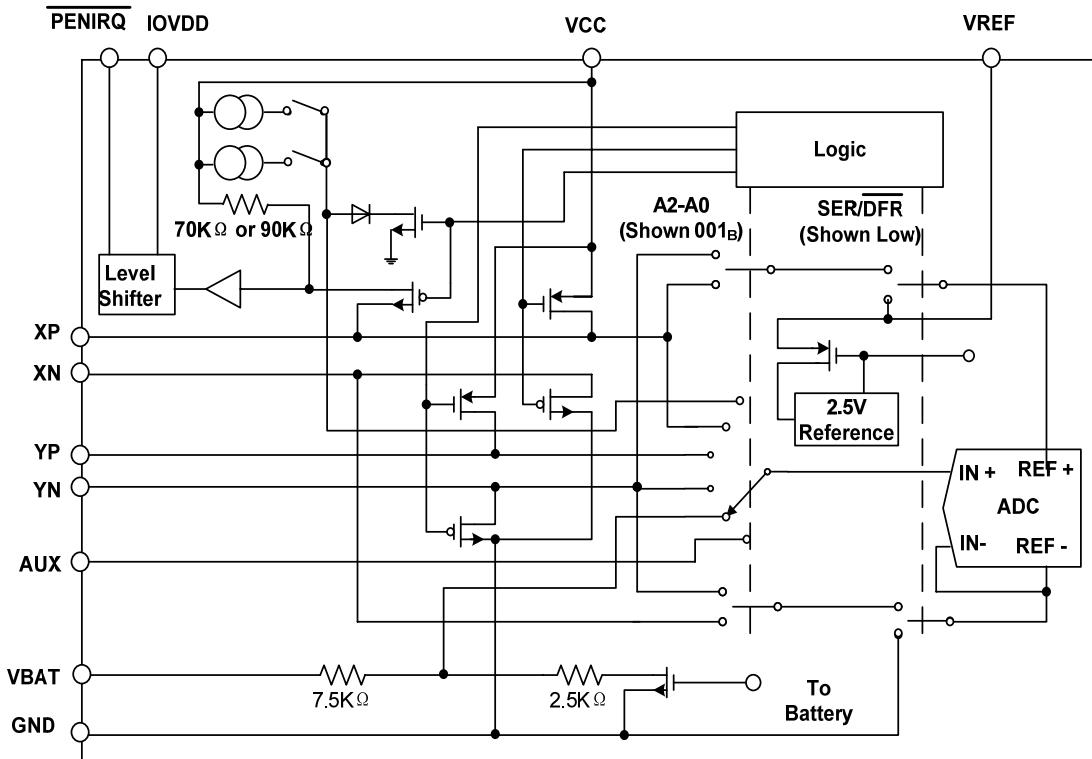
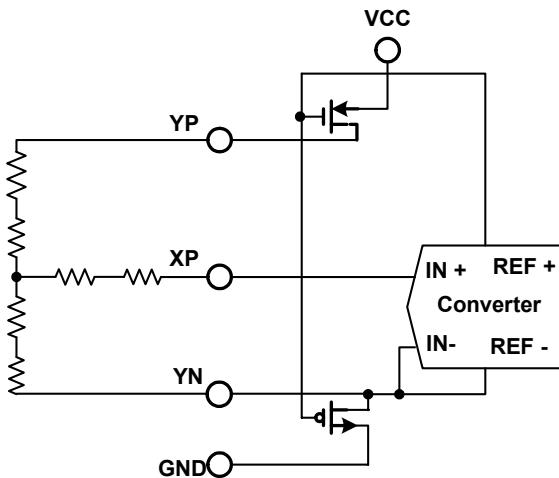

Figure 5. Simplified Diagram of Analog Input
Figure 8. Simplified Diagram of Differential Reference (SER/DFR low,
Figure 5 shows a block diagram of the input multiplexer on the XPT2046, the differential input of the ADC, and the differential reference of the converter. Table 4 and Table 5 show the relationship between the A2, A1, A0, and SER/DFR control bits and the configuration of the XPT2046. The control bits are provided serially via the DIN pin—see the *Digital Interface* section of this data sheet for more details.
The voltage difference between +REF and -REF (see Figure 5) sets the analog input range. The XPT2046 operates with a reference in the range of 1V to +VCC. There are several critical items concerning the reference input and its wide voltage range. As the reference voltage is reduced, the analog voltage weight of each digital output code is also reduced.
This situation can be remedied as shown in Figure 8 By setting the SER/DFR bit low, the +REF and –REF inputs are connected directly to Y+ and Y–, respectively, which makes the analog-to-digital conversion ratiometric. The result of the conversion is always a percentage of the external resistance, regardless of how it changes in relation to the on-resistance of the internal switches. Note that there is an important consideration regarding power dissipation when using the ratiometric mode of operation (see the *Power Dissipation* section for more details). As a final note about the differential reference mode, it must be used with +VCC as the source of the +REF voltage and cannot be used with VREF. It is possible to use a high-precision reference on VREF and single-ended reference mode for measurements which do not need to be ratiometric. In some cases, it is possible to power the converter directly from a precision reference. Most references can provide enough power for the XPT2046, but might not be able to supply enough current for the external load (such as a resistive touch screen).
**Addressing**—The next three bits (A2, A1, and A0) select the active input channel(s) of the input multiplexer (see Table 1, Table 2, and Figure 5), touch screen drivers, and the reference inputs.
**SER/DFR**—The SER/DFR bit controls the reference mode, either single-ended (high) or differential (low). The differential mode is also referred to as the ratiometric conversion mode and is preferred for X-Position,Y-Position, and Pressure-Touch measurements for optimum performance. The reference is derived from the voltage at the switch drivers, which is almost the same as the voltage to the touch screen. In this case, a reference voltage is not needed as the reference voltage to the ADC is the voltage across the touch screen. In the single-ended mode, the converter reference voltage is always the difference between the VREF and GND pins (see Table 1 and Table 2, and Figure 5 through Figure 8, for further information).